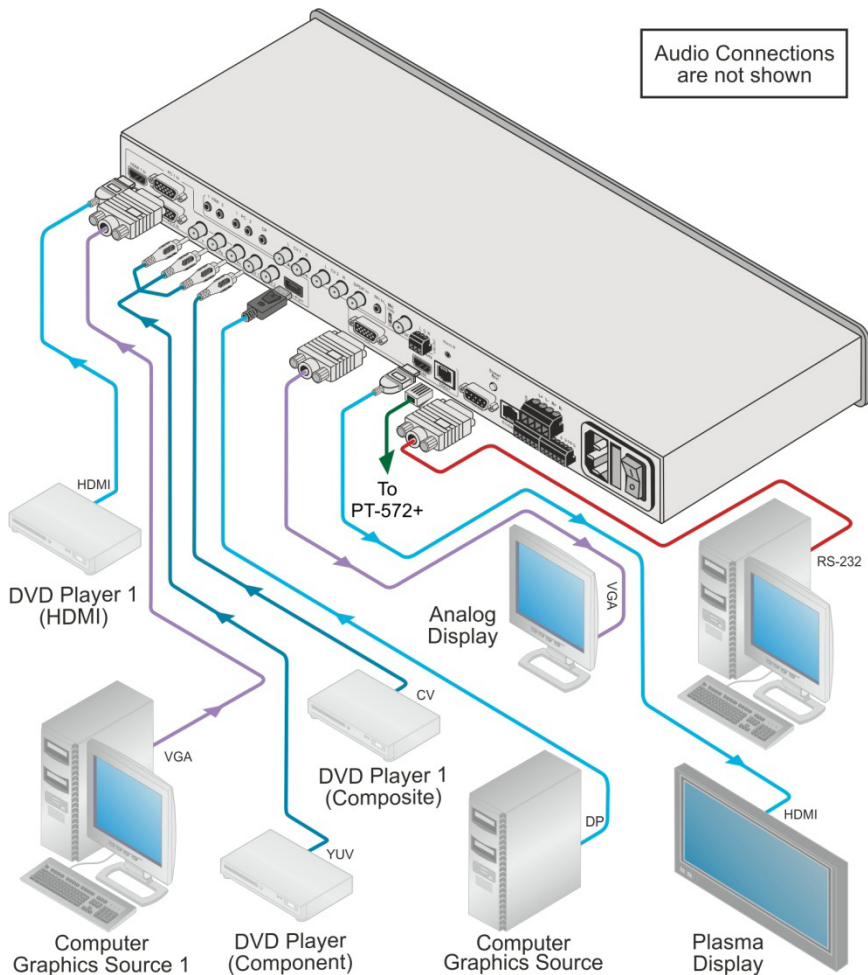

Figure 3: Connecting the VP-770 Presentation Switcher/Scaler
To connect the **VP-770**, as illustrated in the example in Figure 3, do the following:
6. Connect the audio input signals to the AUDIO IN connectors (3.5mm mini jack and RCA connectors), as required (not shown in Figure 3).
10. Connect the SPKR Terminal Block connector to speakers (not shown in Figure 3).
12. Connect the power cord (not shown in Figure 3).